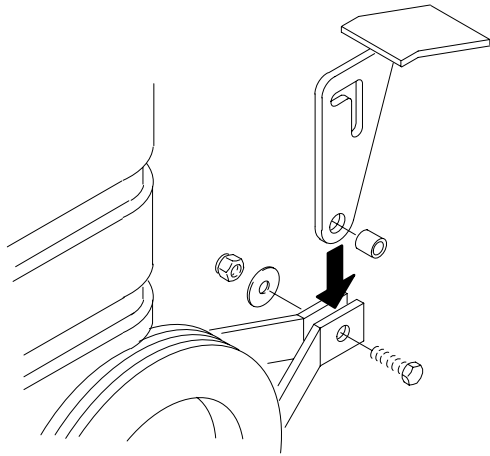

FIG. 3
8. Insert spacer through hole in pedal as shown. Position pedal between two holes in bracket and slide hex head screw through bracket and pedal. Secure with washer and nut (*Figure 3*).